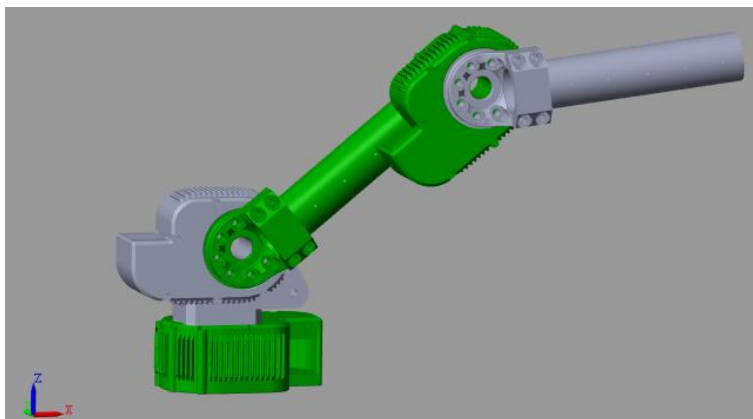

Figure 17: Colored Multibody Robot
- Update the model and graphics. Within the Mechanics Explorer window, you should see the model as it is shown in figure 17.